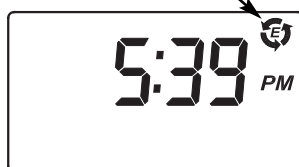

FIG. 23
3. Press the PROGRAM button once again, to return to the normal run display (See Figure 23).